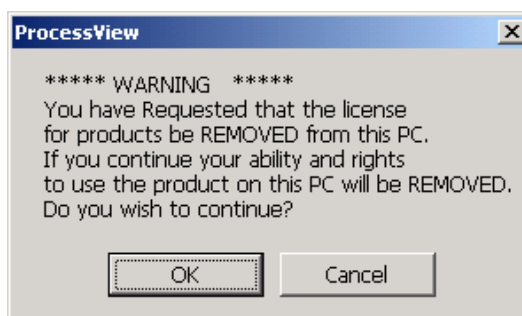

Figure 3.23. Killing a Software Key License
27. Select **Kill License** from the **Actions** menu in the License Utility. Using this option, you can remove the current software license from the current machine. You also need to contact the SMAR Order Processing Department to get a special password for killing your license. A warning message will be displayed on the screen as shown in **Figure 3.23**. **If you kill your license, you need to get a new license from SMAR to restart your ProcessView product.**